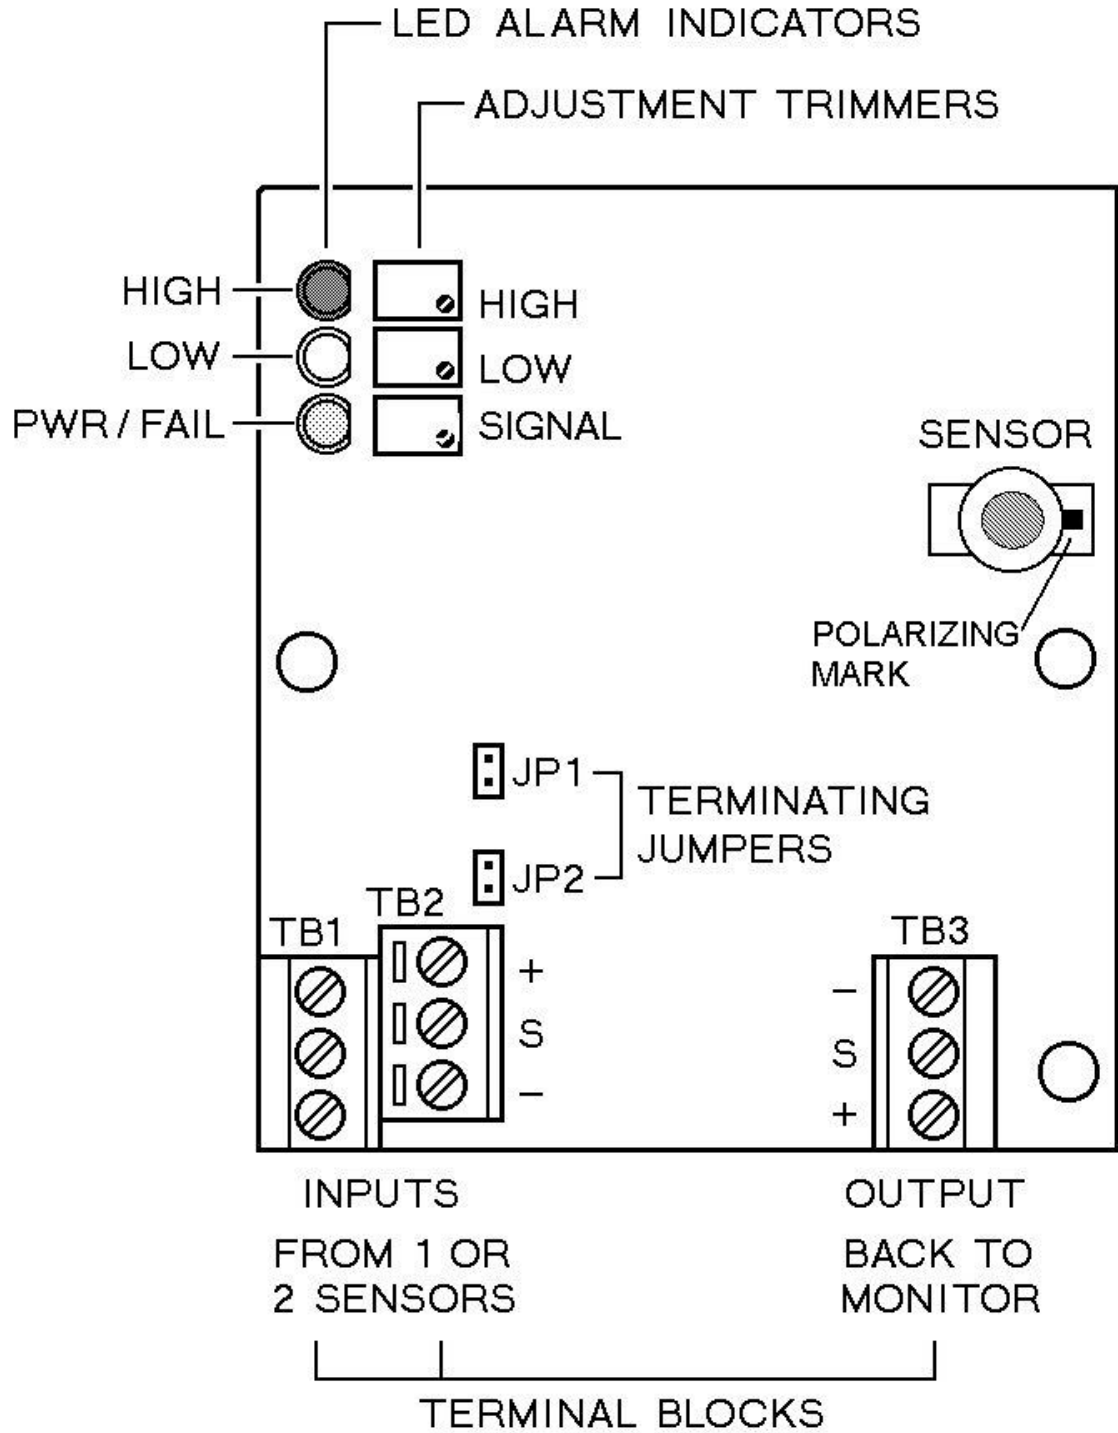

Figure 3-1 Internal Features of the AMC-1225 Sensor Module
- 10) INPUT TERMINAL BLOCKS: The input terminal blocks, labeled (-,s,+), are used to connect additional sensor modules. Each unused input terminal block must be locked-out using a terminal jumper, see Figure 3-1 – JP1, JP2.
All calibration adjustments are made using the three trimmers next to the single row of LEDs, see Figure 3-1.
When the sensor needs replacing, reorder the Part Number listed in Product Information (page 4). To replace the sensor element remove the four screws and cover plate from the housing. Unplug the used sensor element from its socket and discard. Then plug in the replacement sensor element, refer to Figure 3-1 for sensor polarity. Reinstall the cover plate and screws.